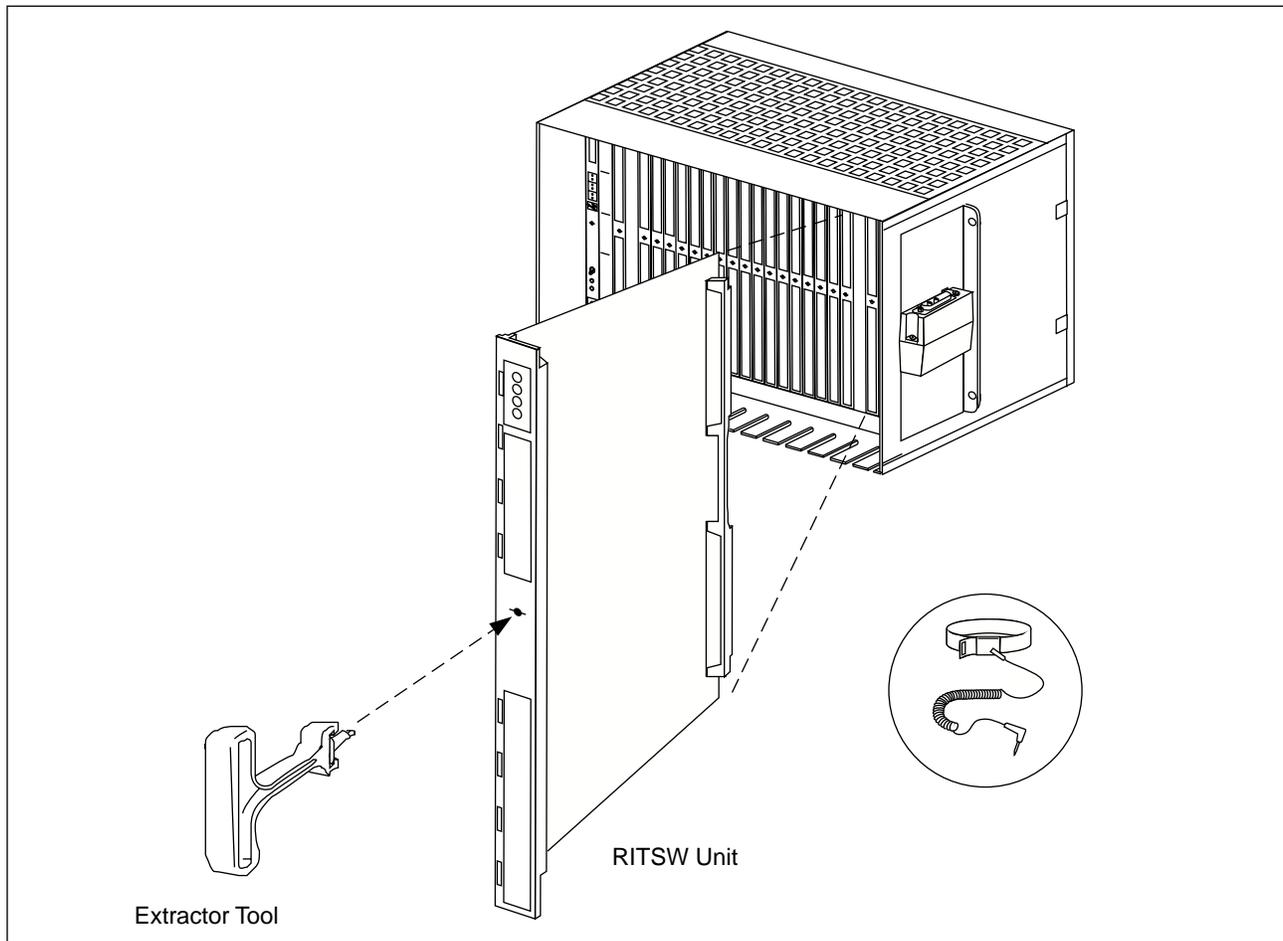

Figure 6-10. RITSW Unit Removal
6. At the top of the CRI magazine, carefully press the plastic retaining catch upwards and use the extractor tool to remove the EMRP or EMRPS unit from the CRI magazine (Figure 6-10 on page 6-34).
4. At the top of the CRI magazine, carefully press the plastic retaining catch upwards and use the extractor tool to remove the RITSW unit from the CRI magazine (Figure 6-10 on page 6-34).